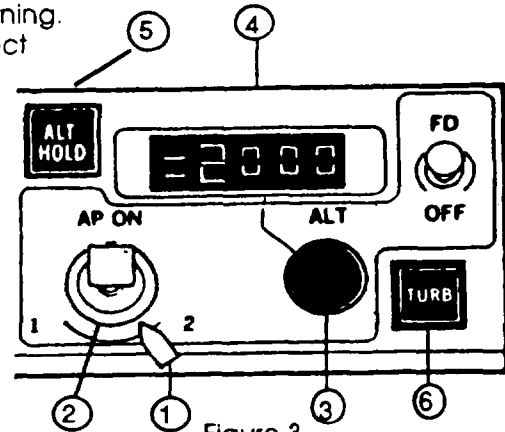

Figure 3
- (A) Used to extinguish ILS-HORIZON-HEADING-MONITOR or NO AUTOLAND legends if problem is not automatically corrected.
- (B) Can also be used to recall any comparator/failure legend after reset if failure still exists by pressing and holding button in.
**AUTOPILOT/ALTITUDE CONTROL PANEL (Figure 3)**